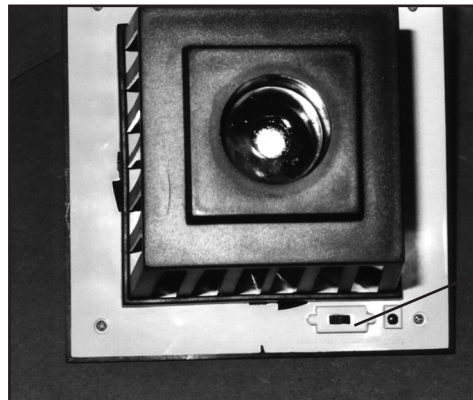

Figure 2
Note: There are three positions on the Switch (8). ON, OFF & Ultraviolet Light (that attracts insects to kill them). The Insect Killer position of the switch will operate 6 hours at a time after a full days charge. See Figure 2.
4. The power Switch (8) is located on the underside of the top cover. See Figure 2.